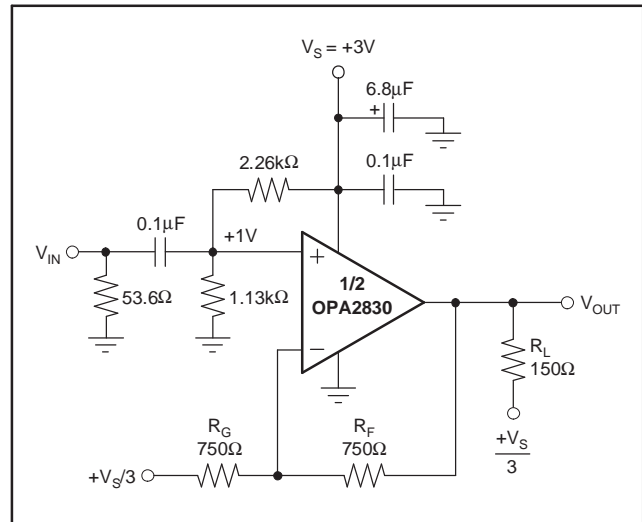
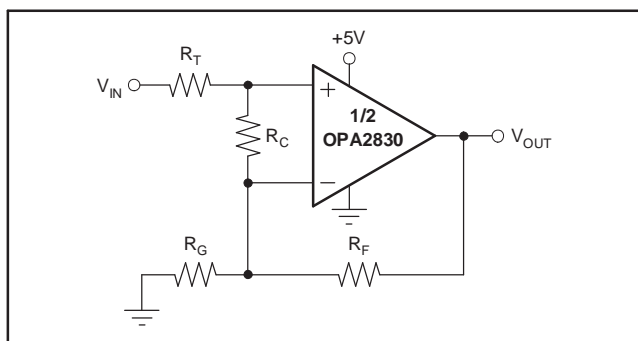

Figure 71. AC-Coupled, G = +2, +3V Single-Supply Specification and Test Circuit
Figure 77. Compensated Noninverting Amplifier
At $T_A = +25^\circ C$, $G = +2V/V$, and $R_L = 150\Omega$ to $V_S/3$, unless otherwise noted (see Figure 71).
Figure 71 shows the AC-coupled, gain of +2 configuration used for the +3V Specifications and Typical Characteristic Curves. Voltage swings reported in the Electrical Characteristics are taken directly at the input and output pins. For the circuit of Figure 71, the total effective load on the output at
Figure 77 shows a noninverting amplifier that reduces peaking at low gains. The resistor R_C compensates the OPA2830 to have higher Noise Gain (NG), which reduces the AC response peaking (typically 4dB at $G = +1$ without R_C) without changing the DC gain. V_{IN} needs to be a low impedance source, such as an op amp.
Frequency response in a gain of +2 may be modified to achieve exceptional flatness simply by increasing the noise gain to 3. One way to do this, without affecting the +2 signal gain, is to add a 2.55kΩ resistor across the two inputs, as shown in Figure 77. A similar technique may be used to reduce peaking in unity-gain (voltage follower) applications. For example, by using a 750Ω feedback resistor along with a 750Ω resistor across the two op amp inputs, the voltage follower response will be similar to the gain of +2 response of Figure 71. Further reducing the value of the resistor across the op amp inputs will further dampen the frequency response due to increased noise gain. The OPA2830 exhibits minimal bandwidth reduction going to single-supply (+5V) operation as compared with ±5V. This minimal reduction is because the internal bias control circuitry retains nearly constant quiescent current as the total supply voltage between the supply pins is changed.
The criterion for setting this R_S resistor is a maximum bandwidth, flat frequency response at the load. For a gain of +2, the frequency response at the output pin is already slightly peaked without the capacitive load, requiring relatively high values of R_S to flatten the response at the load. Increasing the noise gain will also reduce the peaking (see Figure 77).